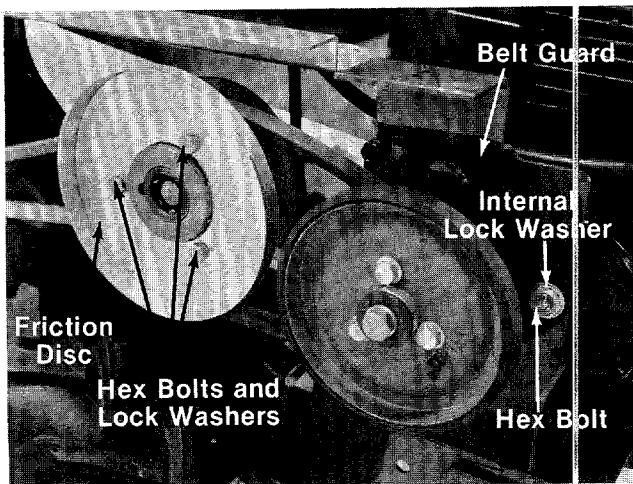

FIGURE 31.
- Place gear shift lever in neutral position. Hold friction disc with one hand. Remove three hex bolts and lock washers which hold the friction disc to the variable speed pulley. See figure 31. Lift belt off the variable speed pulley.
- Remove the hex bolt and internal lock washer which holds the belt guard to the engine. See figure 31. Remove the belt guard. Remove and replace the belt.